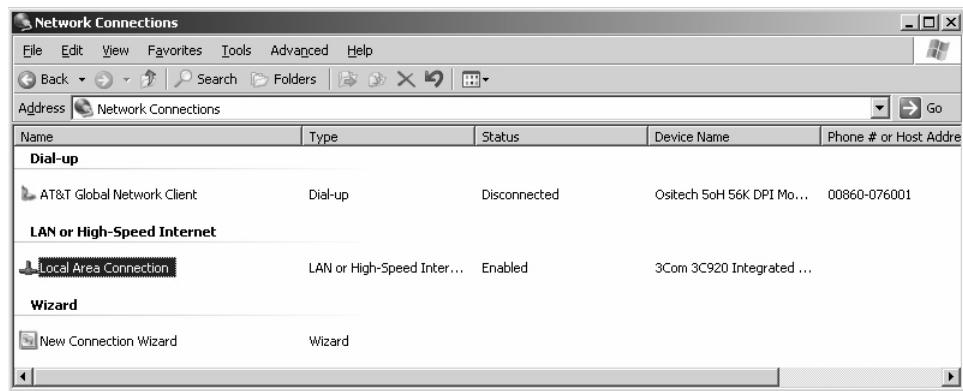

Figure 11: My Network Places
1. Right-click the **My Network Places** icon and select **Properties**: Or from the **Start** menu, open the **Control Panel** and select **Network Connections** to open the Network Connections window (Figure 11).